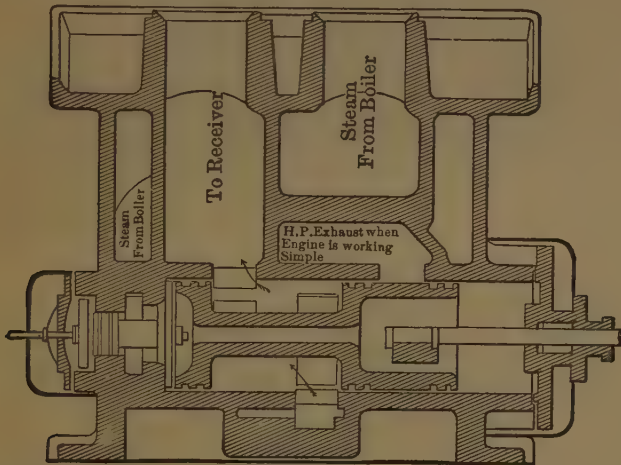

Fig. 217. Pittsburgh (Colvin-Wightman) Compound, Working Compound.
A. In the forward position, as shown in figure 217, so as to cut off live steam from the receiver and the exhaust-pipe from the high-pressure cylinder to the independent exhaust-nozzle, and send the high-pressure exhaust into the receiver.
which admits pressure to the reversing-appliance, and the intercepting valve is moved to the position shown by figure 217. The dropping back of the lever to full stroke again changes the valve, and the engine is thrown into simple as before.